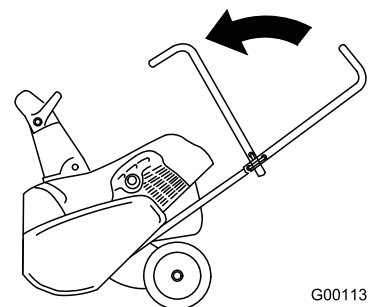

Figure 23
2. Fold the upper handle forward (Figure 23).